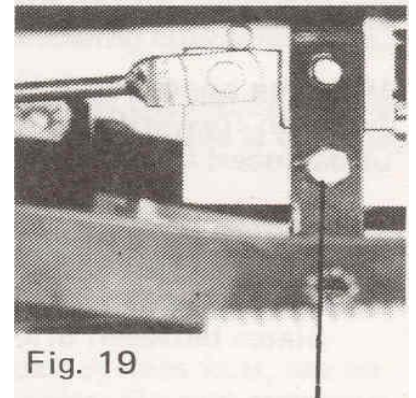

Fig. 19
1. Remove 'R' clip and push rod pin (See Fig.19)
2. Remove brake pivot bolt (B) and two spacers (See Fig.19)